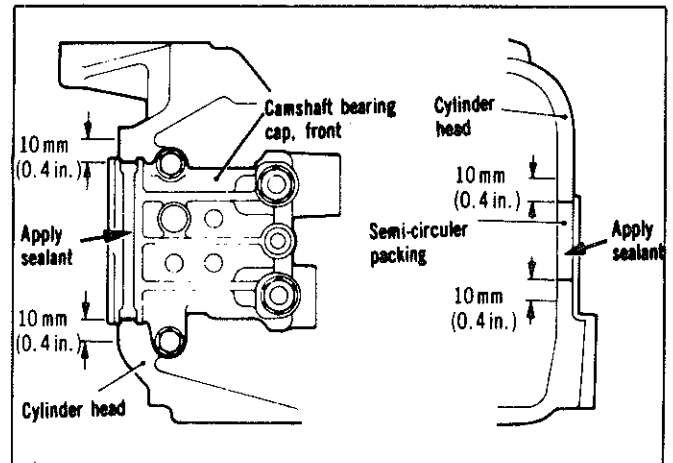

Fig. 19—Rocker arm cover sealing points
- (7) Install the timing belt upper front cover.
- (8) Adjust the valve clearance to specification.
- (9) Install the rocker arm cover gasket to the cover.
- (10) Apply sealer to the area shown in Fig. 19.